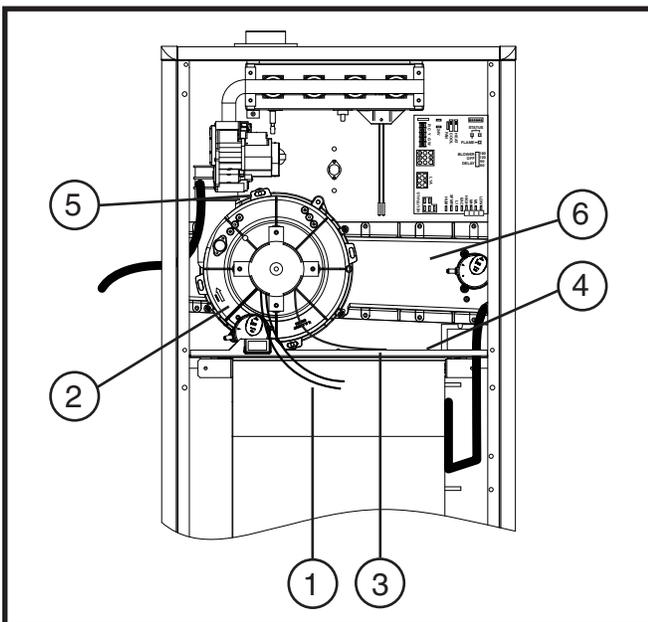

Figure 25. Inducer Assembly Rotation
1. Disconnect the electrical harness (1) from the inducer assembly (2). See Figure 25.
2. Remove the inducer assembly ground wire (3) from the blower deck (4).
3. Remove three screws (5) securing the inducer assembly (2) to the header box (6).
4. Rotate the inducer assembly (2) to its new position.
5. Reinstall the three screws (5) removed in step 3. If the inducer assembly is rotated to the left or right side of the furnace, use the extra 4th screw provided in the parts package.
7. Reconnect the electrical harness (1) to the inducer assembly (2).
8. Reconnect the inducer assembly ground wire (3) to the blower deck (4) or door.